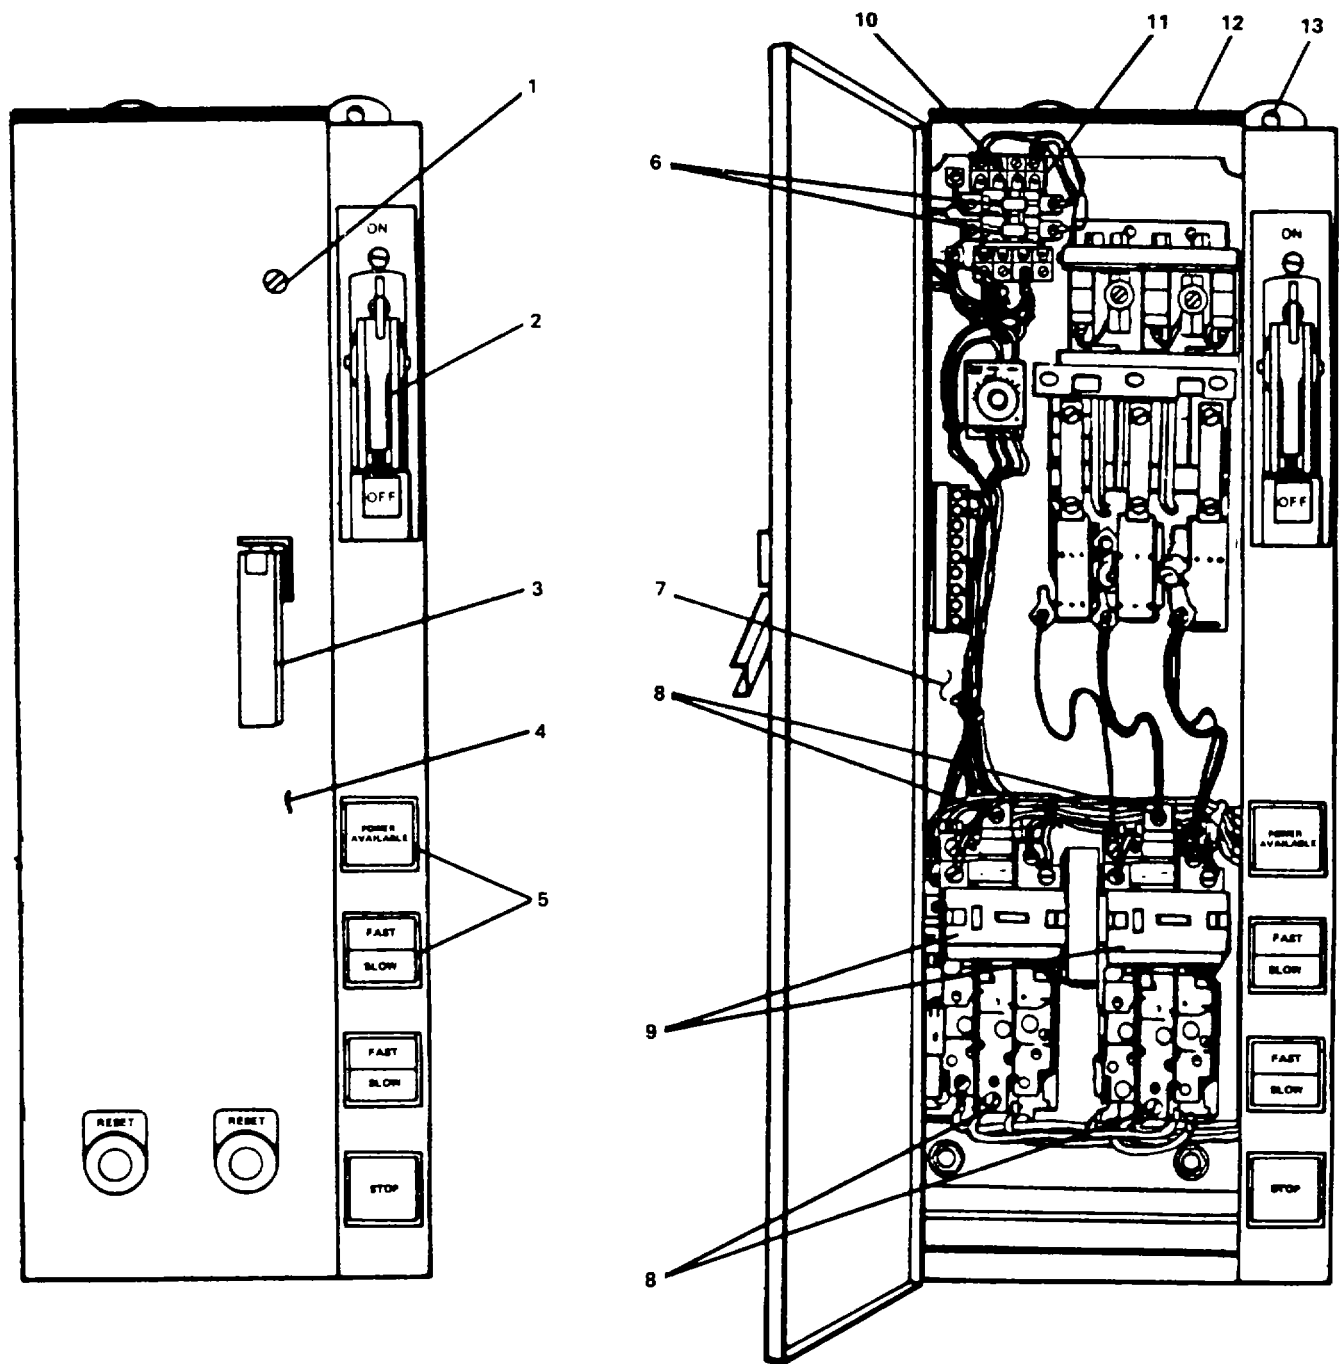

Figure 2-78. Motor Controller (Engine Room Supply Fan).
a. Remove lens covers and lamps (5, Figure 2-78) from indicators.